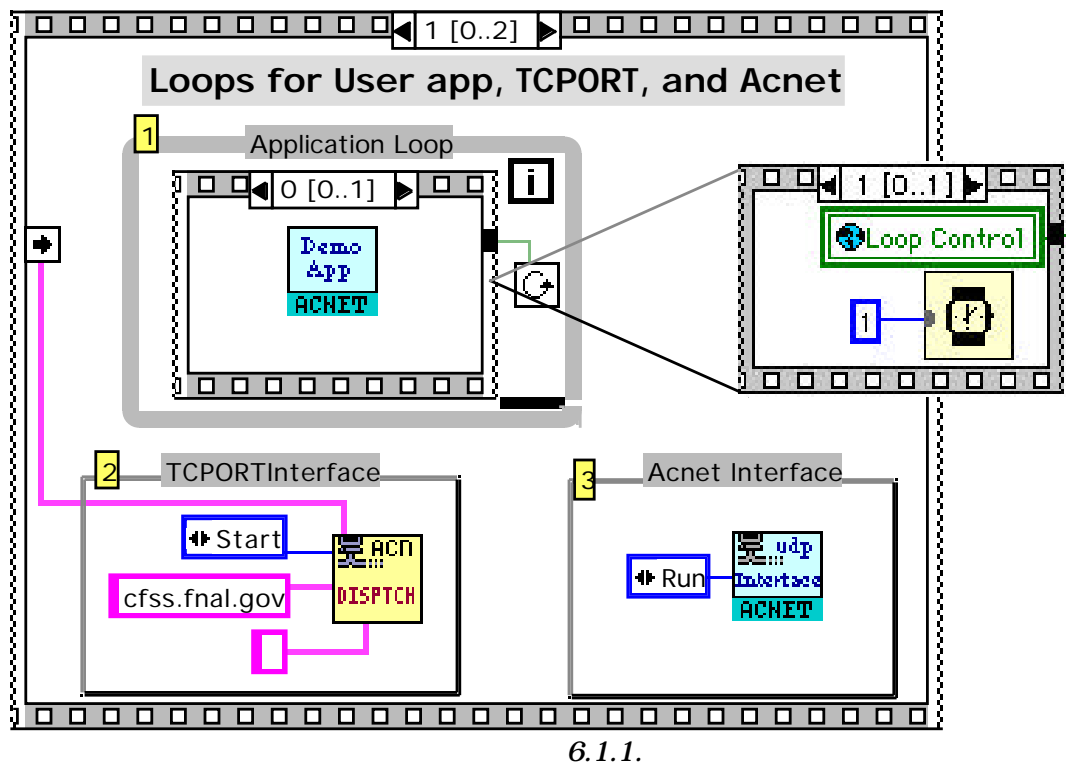

Figure 7. Running your application.
Figure 7 shows the second frame of the Acnet Demo VI containing a while loops (1) for your application VI, the TCPORT Interface (2) which has its own internal while loop, and the Acnet interface VI (3) which also has its own while loop. All loops should terminate when Loop Control global is set to false. Your application should have a stop button which will set this global to false. LabVIEW executes all loops, or any other added, in parallel so that your program, the Acnet interface and if included the TCPORT interface all run at the same time. Remember to add the Wait ms VI to each loop to prevent it from hogging all the CPU time. (Note that different platforms have different threading capabilities that can assist you in setting up the time-slicing. See the LabVIEW users manual for details)